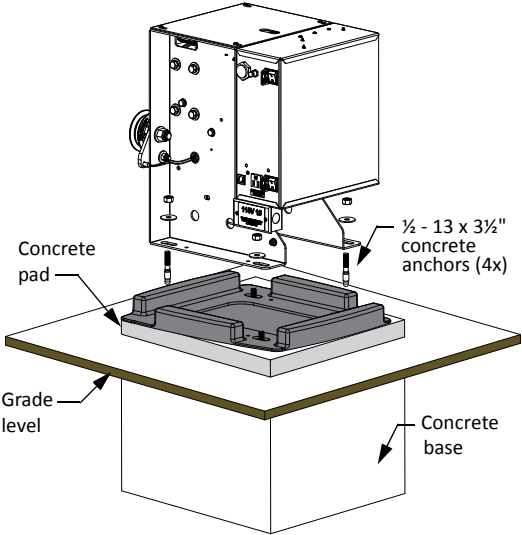

Figure 1-10.
4. Mount the operator with four 1/2 - 13 x 3 1/2-inch concrete anchors as shown in Figure 1-10.